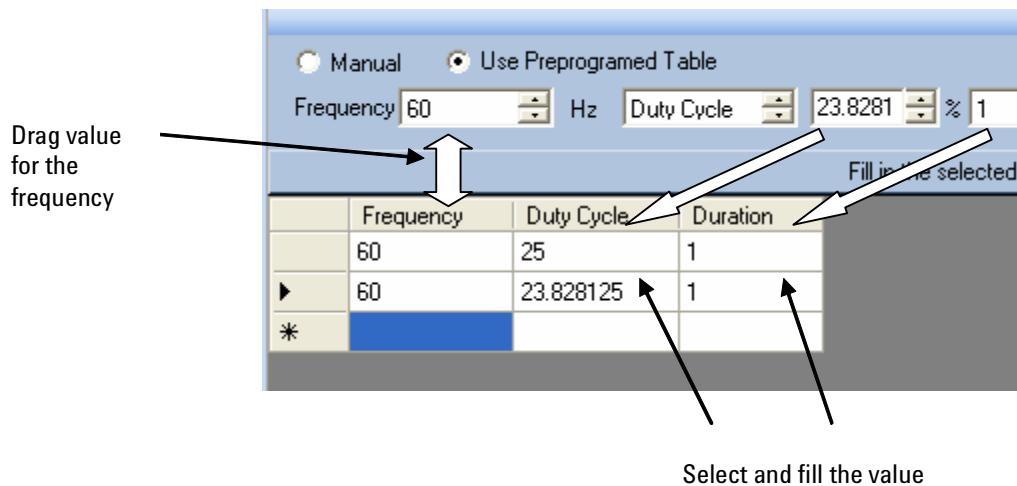

Figure 19 Square wave program settings
- 3 Select the respective **Duty Cycle** and **Duration** column cell, then click **Fill in the selected cell** button to input the parameters (Figure 19).